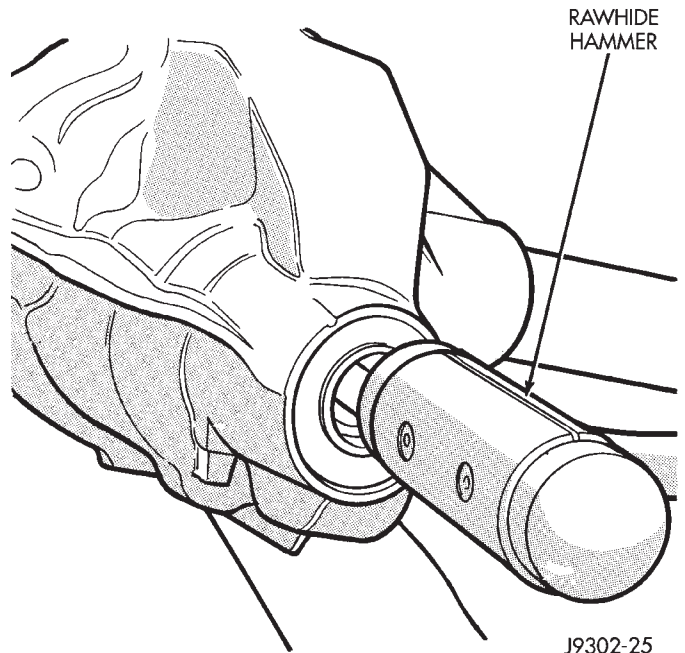

Fig. 36 Remove Pinion Gear
- (6) Remove the pinion gear and collapsible spacer from housing (Fig. 36). Catch the pinion with your hand to prevent it from falling and being damaged.